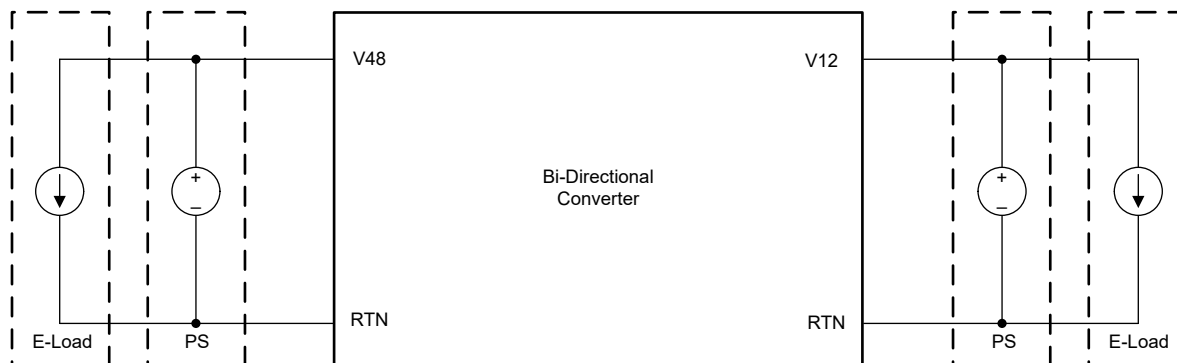

Figure 8-37. Emulated Dual Battery System With Bench Power Supplies and E-Loads
The LM5171-Q1-based converter is designed to operate with two differential voltage rails like the 48V and 12V dual battery system, or a storage system having a battery on one end and the Super-Cap on the other end. When operating with bench power supplies, each supply needs to be capable of sourcing and sinking the maximum operating current. Parallel an Electronic load (E-Load) with the bench power supply (PS) to emulate the batteries, as shown in Figure 8-37.